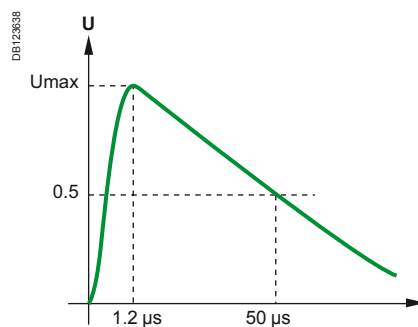
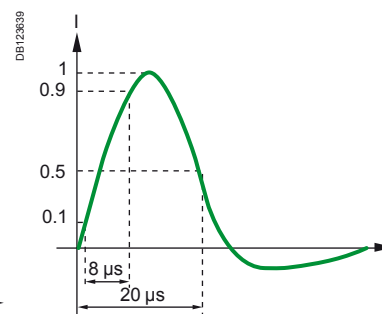

Fig. 2: 8/20 μ s normalised current waveform
Fig. 3: 1.2/50 μ s normalised voltage waveform
- Lightning strikes: these voltage surges are represented normatively by a 1.2/50 μ s voltage waveform (see Fig. 2). The currents induced by these voltage surges are represented by a normalised 8/20 μ s waveform (see Fig. 3).